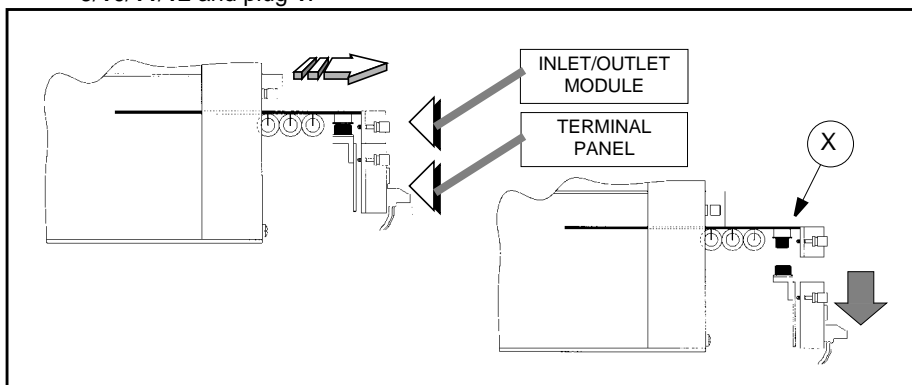

Fig. 41
- 6) slide the module partially from the rack and separate the terminal panel from the inlet/outlet board (X) (fig. 41).